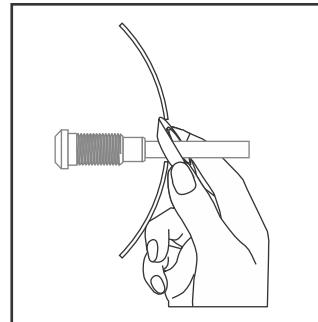

Fig. 44: Install Seal
5. Install Seal: Slide the seal, flared side away from the hole, onto the handle. Using thumb and forefinger, squeeze the seal together and work it into the hole around the handle. (Fig. 44)
- 5. Install Seal:** Slide the seal, flared side away from the hole, onto the handle. Using thumb and forefinger, squeeze the seal together and work the seal into the hole around the handle. (Fig. 44)
5. Install Seal: Slide the seal, flared side away from the hole, onto the handle. Using thumb and forefinger, squeeze the seal together and work the seal into the hole around the handle. (Fig. 44)